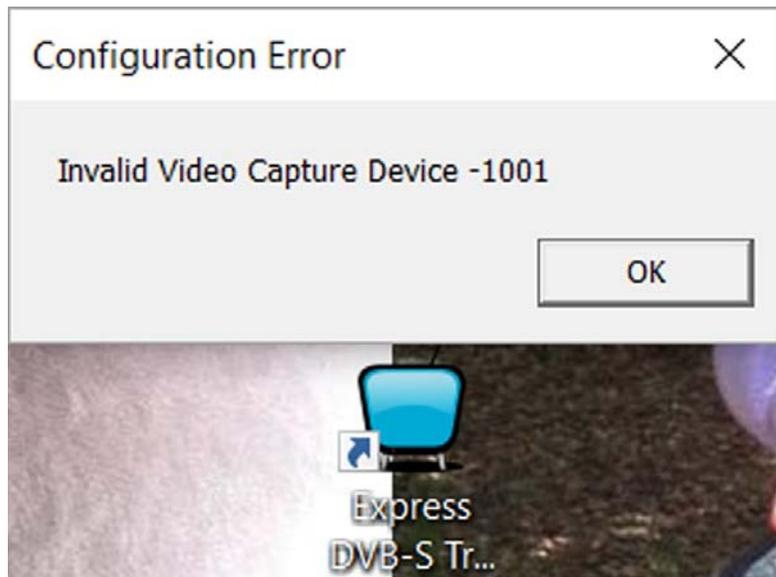

Figure 13 – An error message appears because the camera (video-source) is not connected
- An error message indicating an “Invalid Video Capture Device” as shown in Figure 13 should appear.